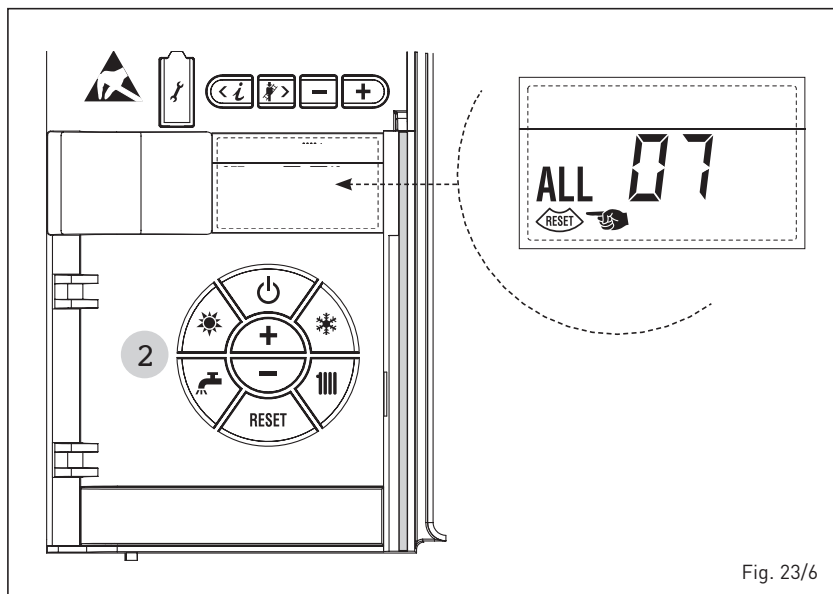

Fig. 23/6
– **ANOMALIA FIAMMA PARASSITA “ALL 08” (fig. 23/7)**